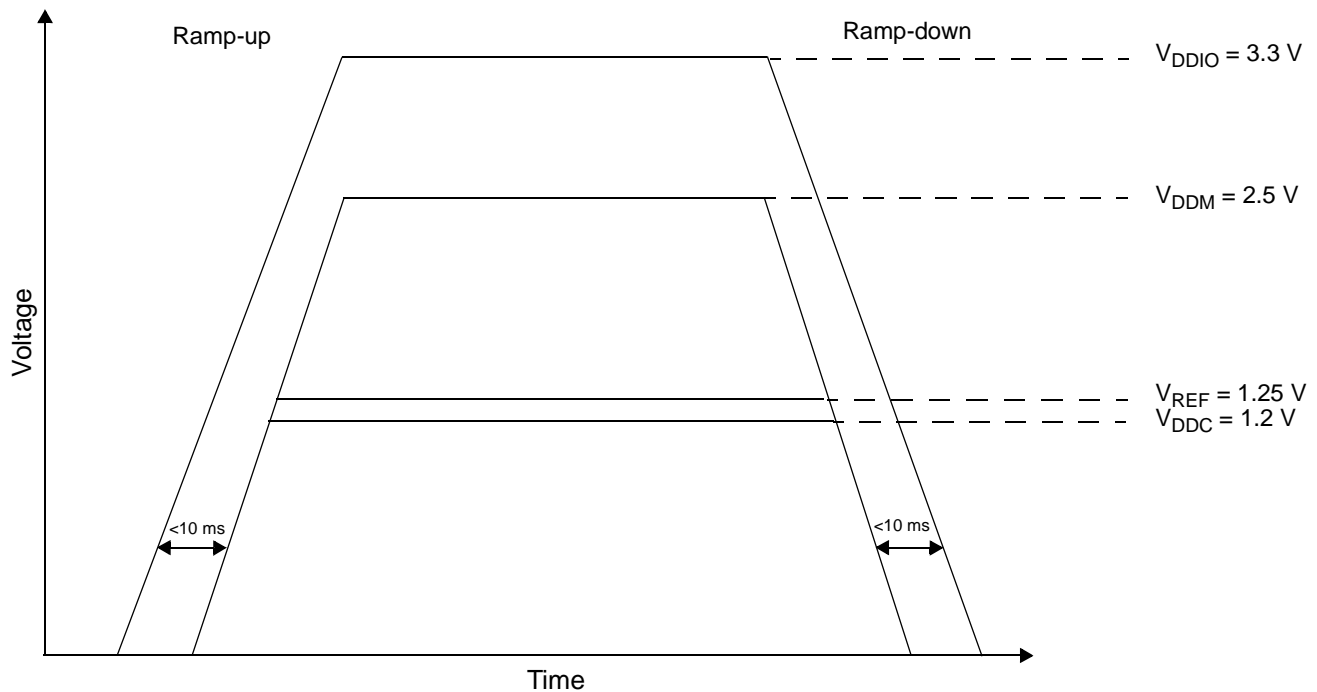

Figure 29. Voltage Sequencing Case 4
- Refer to **Figure 29** for relative timing for Case 4.